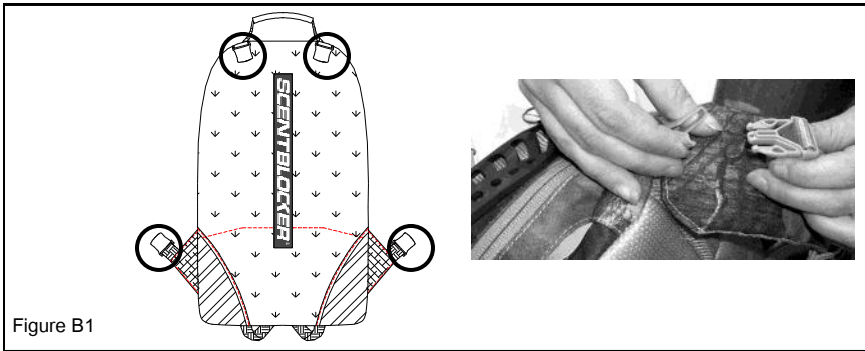
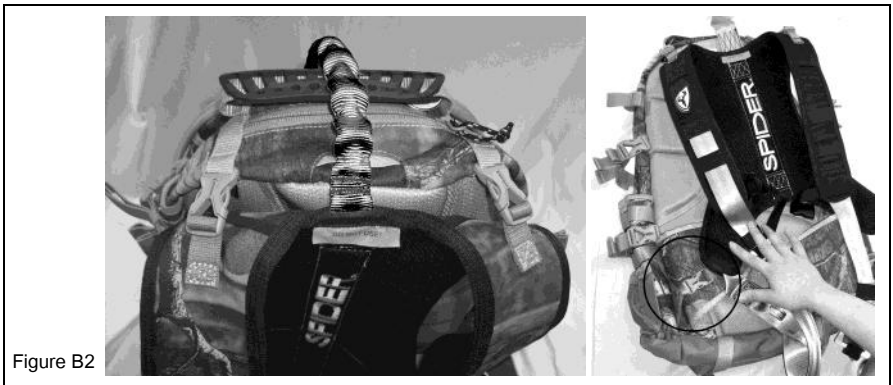

Figure B1
Figure B2
1. Pass one Leg Loop through your legs from the back to the front; this would be the Male Side of buckle (Figure B1). Make sure not to twist the webbing strap. The webbing strap should lay flat against your body. The leg padding should also not be twisted. Make sure the air mesh side of the leg padding is flat against your leg.
2. Bring the Male Side of the Venom™ Buckle to the Female Side of buckle. Insert the Male Side into Female Side and they should “click” together (Figure B2).
1. Remove the shoulder straps from the back pack at all four clip points (Figure B1).
2. Attach the Backpack to the Harness using all four Spider Speed Clips™ (Figure B2).
- B. With the Adjustment Buckle's non-flat side facing you (Figure B1), thread the tree strap end from the back side between the looped portion of the tree strap webbing and the textured sliding bar (Figure B2).